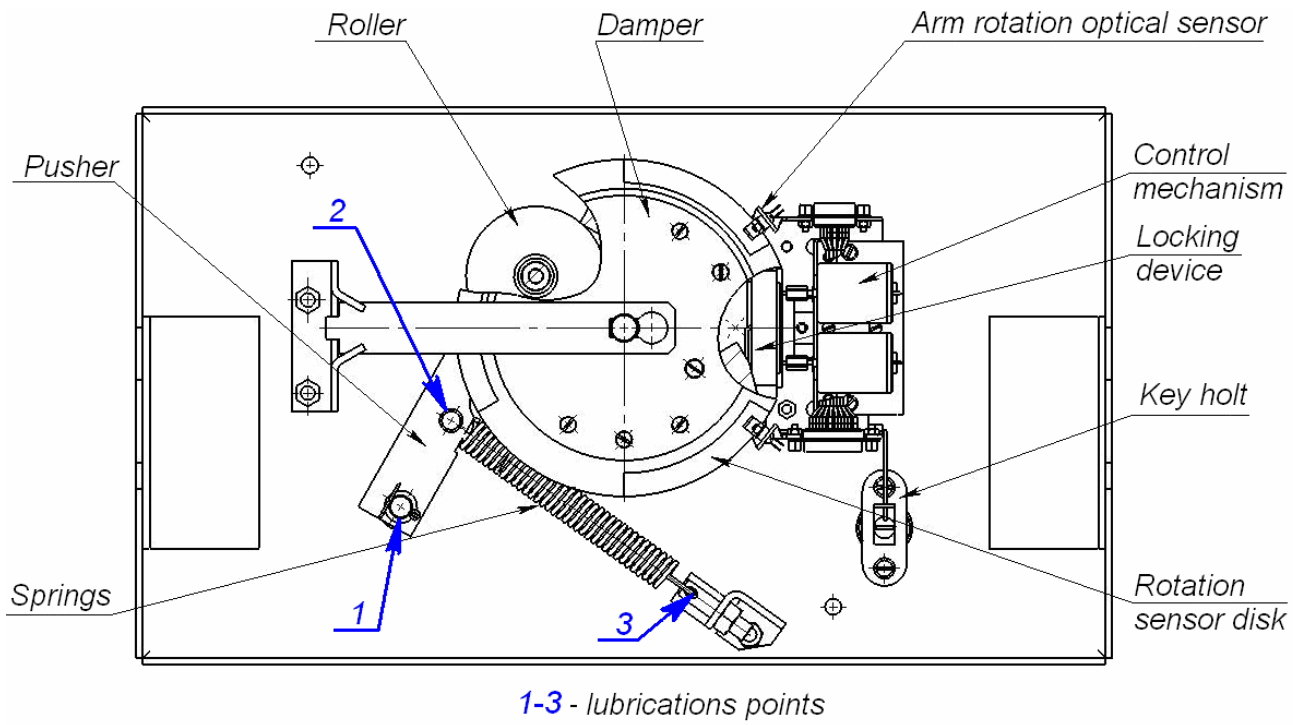

Fig. 13. Location of the interior components of the turnstile housing
Check visually the resetting device (the pusher, the springs and the roller), the arm rotation optical sensors and the damper (see Fig. 13).
- four bushes of the resetting device (two — on the rotation axis of the pusher, two — on the fastening axis of the springs) (see Fig. 13);
- lock cylinder of the mechanical release lock (7) through the keyhole;
- lock cylinder of the turnstile housing cover lock (9) through the keyhole.